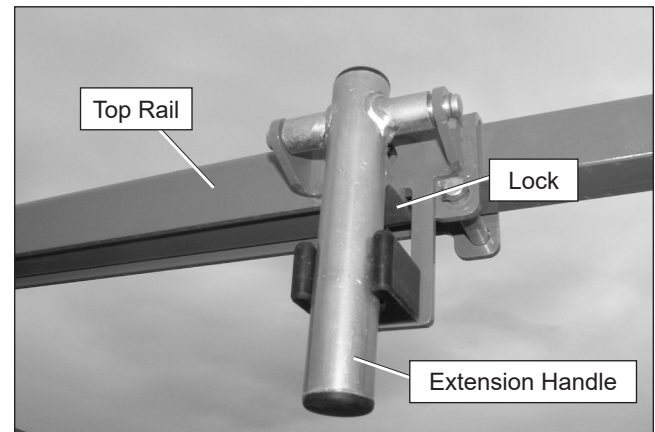

Figure 9.3 – Platform Extension Handle
the extension deck forward to extend the deck. Fully lower the handles at the mid or front position and ensure they are locked in their lowered position (refer to Figure 9.3).
2. While facing the front of the platform, grasp the platform extension handles, raise them and pull the extension deck backward to retract the deck. Fully lower the handles at the stowed position and ensure they are locked in the lowered position (refer to Figure 9.3).